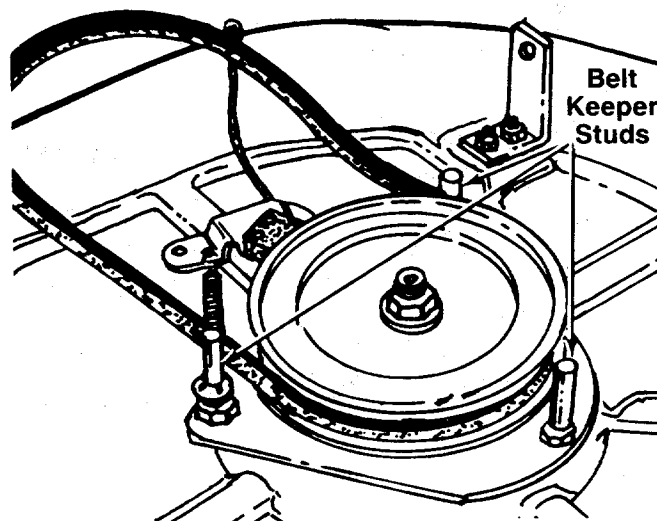

FIGURE 7.
2. Remove the three belt keeper studs on the deck. See figure 7.